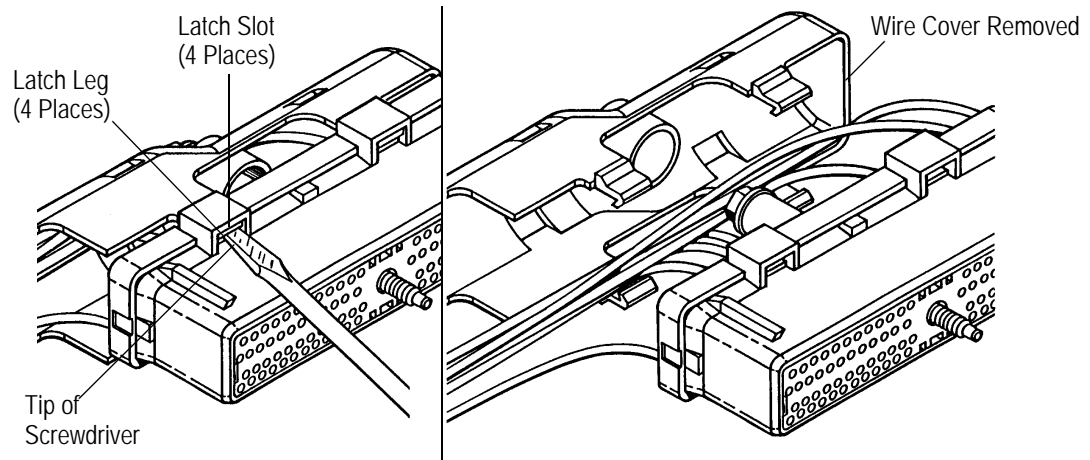

Figure 6
1. The shield wire cover must be removed by releasing the four latch legs from the latch slots of the plug connector. See Figure 6.